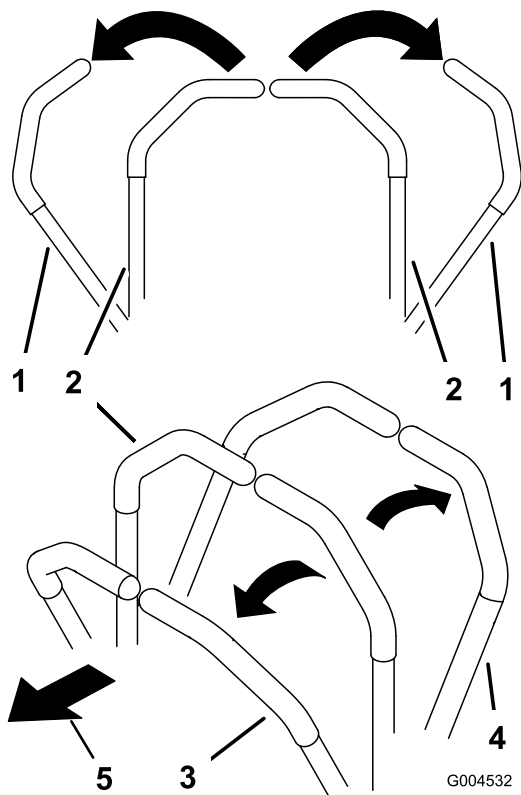
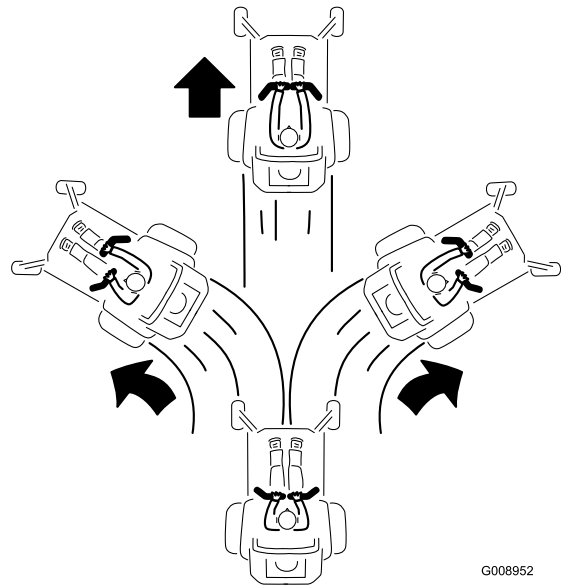

Figure 16
Figure 18
2. To go forward, slowly push the motion control levers forward (Figure 16 and Figure 18).
To go straight, apply equal pressure to both motion control levers (Figure 16 and Figure 18).
To turn, release pressure on the motion control lever toward the direction you want to turn (Figure 16 and Figure 18).